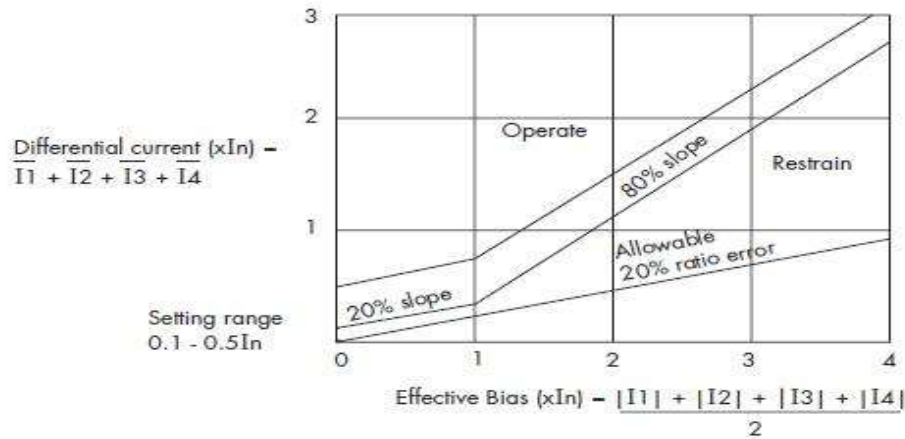

Figure 2. Differential current-bias current curve graph of the differential relay used
- 3- What do the terms difference current and Bias current mean? Explain the blocking and working regions curve given in Figure 2.
The curve that gives the difference current-bias current relationship for the relay we use is given in Figure 2. As it can be understood from this, the slope is 20% up to 1 pu and 80% thereafter, and varies in the range of 0.1-0.5 pu in the vertical direction as seen in the curved graph in question.